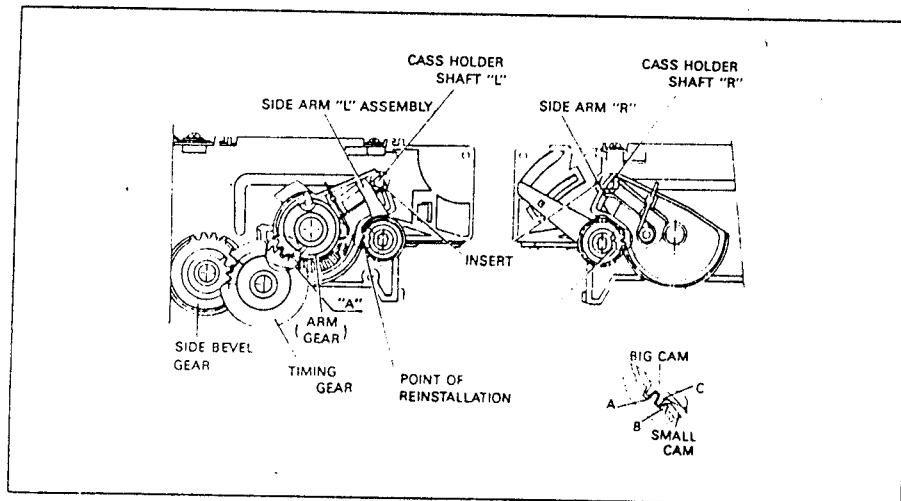

Fig. 19 Side Arm (R) and (L) Reinstallation
Fix at the reinstalling point of relay gear (R) and (L), and at this moment cassette holder shaft (R) (L) must be inserted in the groove of the side arm (R) (L) (Fig. 19)
*When assembling the timing gear, first tooth of the arm gear (C) must be fitted between the full tooth (A) and the half tooth (B) of the timing gear like the "A" part of the Fig. 19.